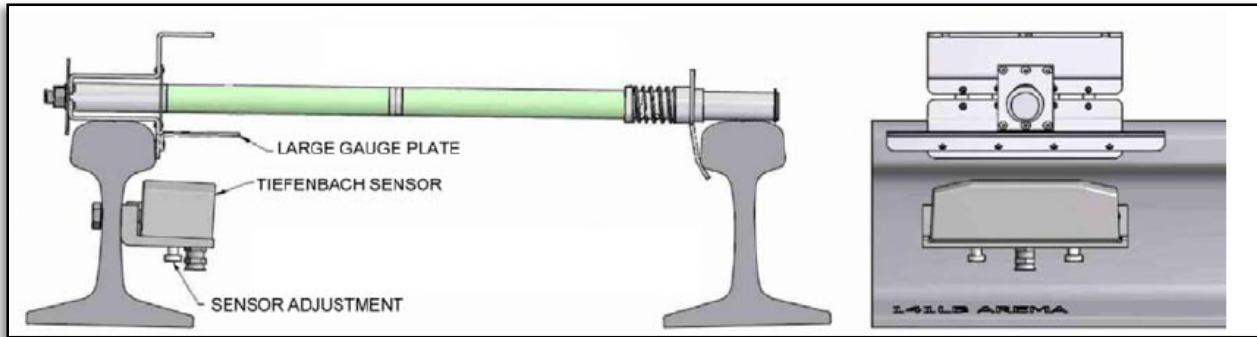

Figure 3 - 2600-800 Wheel Sensor Gauge Placement
3. Locate and place the 2600-800 Wheel Sensor Gauge across the rails such that the large gauge plate is positioned directly over the Tiefenbach wheel sensor. Make sure the gauge is properly seated on the railhead as shown below in Figure 3.